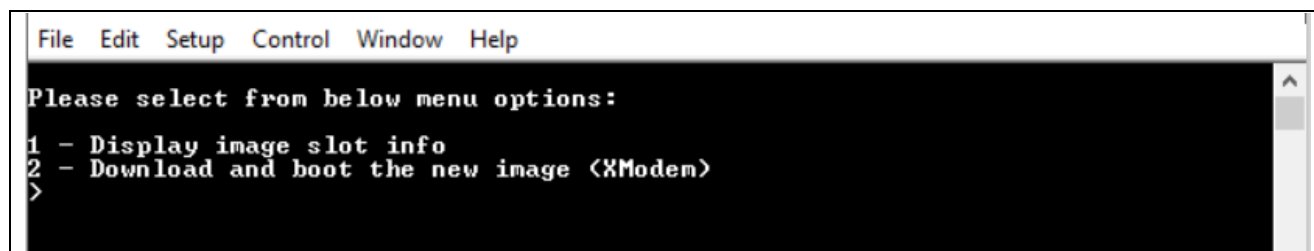

Figure 92. Tera Term Menu
1. Choose option **2** from the Tera Term Menu as shown in Figure 92.